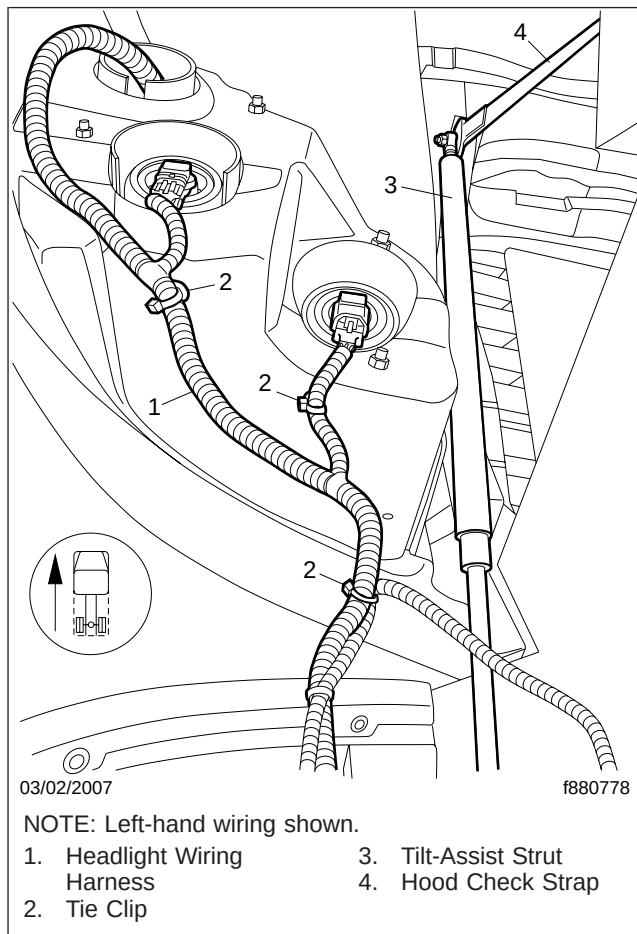

Fig. 1, Headlight Wiring Harness
5. Disconnect the headlight wiring from both sides of the hood. Pull loose the tie clips that hold the wiring harness against the inside of the hood; see Fig. 1.